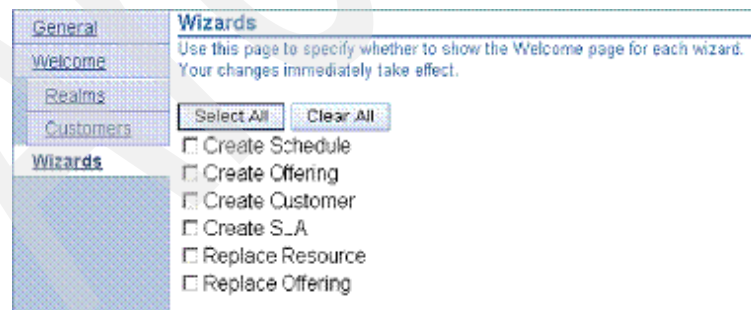

Figure 12-13 Tivoli Service Level Advisor screen for creating a schedule
4. On the Tivoli Service Level Advisor administration console, select **Manage Schedules** → **Create**. The wizard page shown in Figure 12-13 opens.